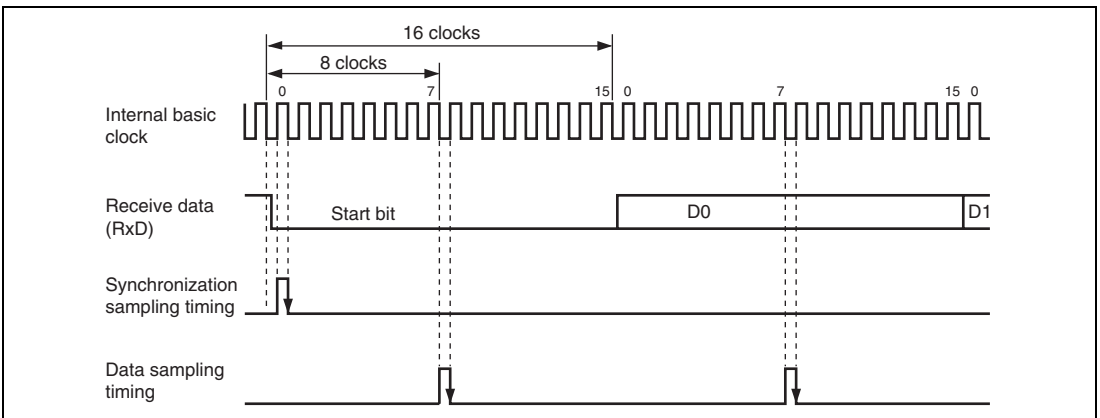

Figure 13.3 Receive Data Sampling Timing in Asynchronous Mode
In asynchronous mode, the SCI operates on a basic clock with a frequency of 16 times the bit rate. In reception, the SCI samples the falling edge of the start bit using the basic clock, and performs internal synchronization. Receive data is latched internally at the rising edge of the 8th pulse of the basic clock as shown in figure 13.3. Thus the reception margin in asynchronous mode is given by formula (1) below.